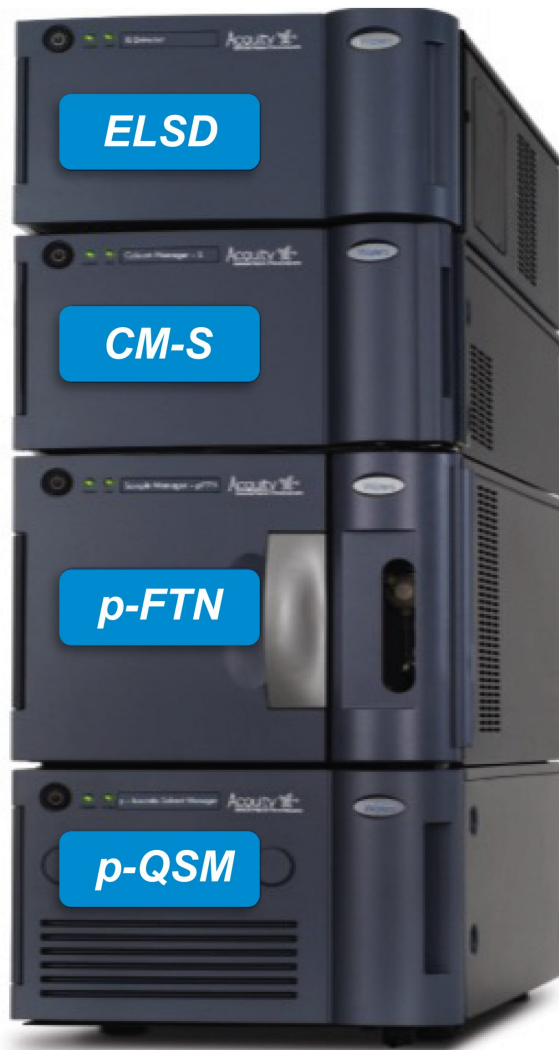

Figure 5. APC System with p-QSM and ELSD.
The APC system designed for GPEC has a new configuration (Figure 5). The polymer isocratic solvent manager (p-ISM) has been replaced with a polymer quaternary solvent manager (p-QSM) to accommodate gradient elution with 100% organic solvent. The refractive index (RI) detector has been replaced with an evaporative light scattering detector (ELSD), because RI is not compatible with gradient elution. A photodiode array (PDA) is not used for this application example, because not all polymers are UV active.^{2,3}